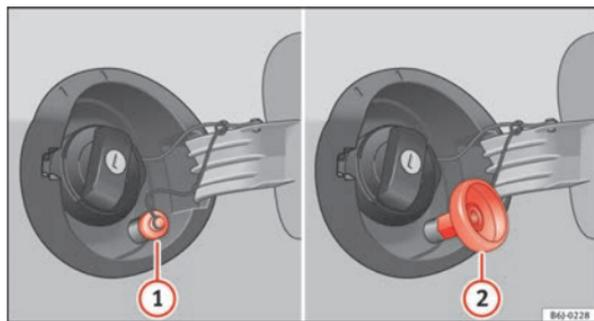

Fig. 120 Fuel tank open with LPG filler neck and adapter.
- Unscrew the cap of the gas filler neck ⇒ fig. 120 ①.
- Screw the required adapter ⇒ fig. 120 ② on the gas filler neck ①.
- Unscrew the adapter ⇒ fig. 120 ②.
- Screw on the cap of the gas filler neck ⇒ fig. 120 ①.